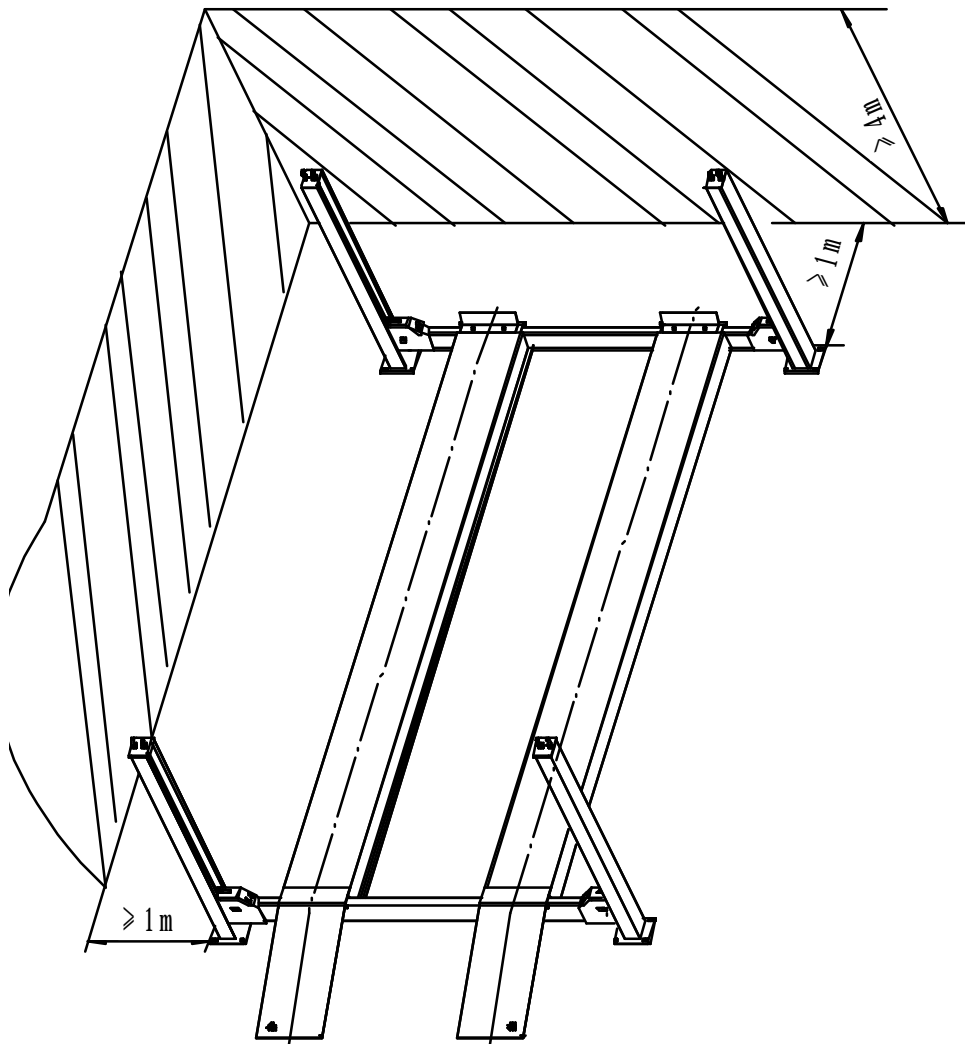

Fig.5
- I Allow enough space around the lift for accessing the vehicle. (as in Fig. 5)